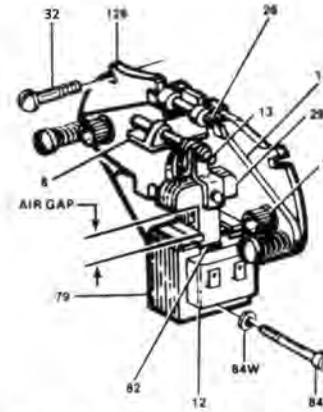

Figure 1. Motor Brake Adjustment
The motor brake should be checked periodically for wear of the friction discs and/or proper adjustment of the solenoid air gap. Refer to Figure 1. Normal lining wear will cause the solenoid lever (8) to move away from the solenoid frame (79) and thus increase the air gap and trolley stopping time.
(Refer to Figure 1 on page 17 and Exploded View Drawing on page 48).**
2. Remove housing (3) from the brake and disconnect the coil wires from the cord.
3. Insert screw driver between support plate (126, Fig.1) and the top of lever arm (17, Fig.1). Wedge these apart and remove bearing pin (26, Fig.1) and solenoid lever (8, Fig.1) with link (13, Fig.1) and plunger (29, Fig.1).
4. Remove plunger guide screw (84, Fig.1) and both plunger guides (82, Fig.1). Slide old coil sideways out of the frame (79, Fig.1). If coil is difficult to move, tap lightly with a soft hammer.
5. Install new coil in the same relative position as the old coil and replace the plunge guides (82, Fig.1) and screw (84 and 84W, Fig.1).